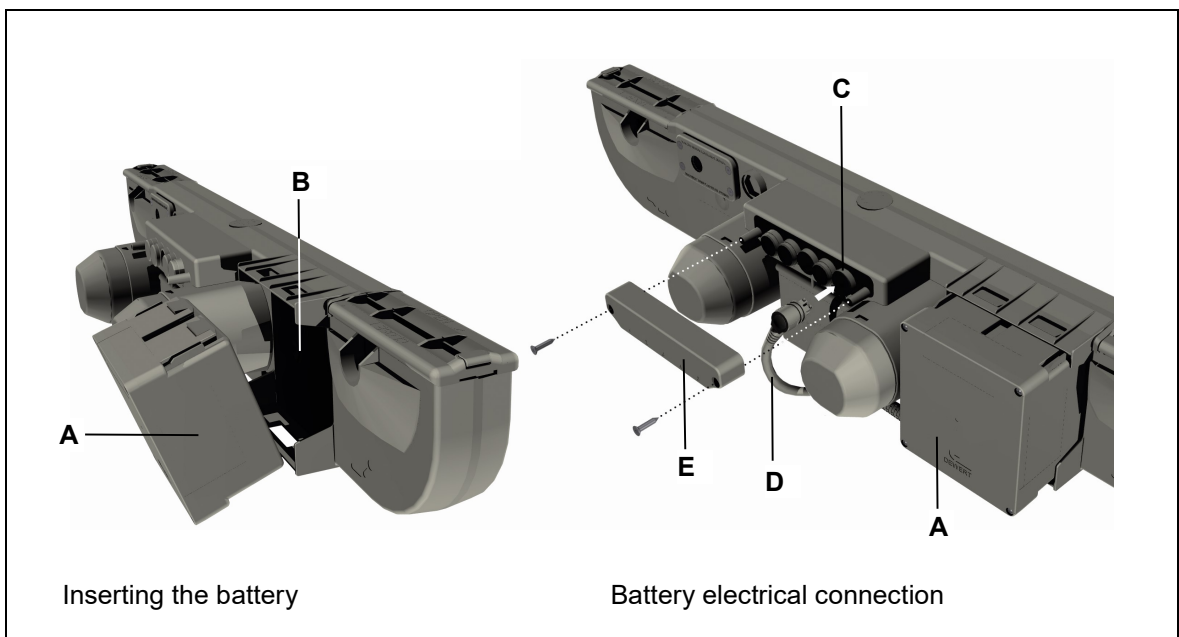

Figure 13 Battery connection for the DUOMAT 7
- 11 Attach the shield cover (as shown in Figure 13). More information is available in the "Connecting a rechargeable battery" section of this document.
- 4 Put the shield cover (**E**) back on. Tighten the two screws on the cover as shown in Figure 13.
- 1 Remove the shield cover (**E**) as shown in Figure 13. Disconnect the battery cable from the socket (**C**).